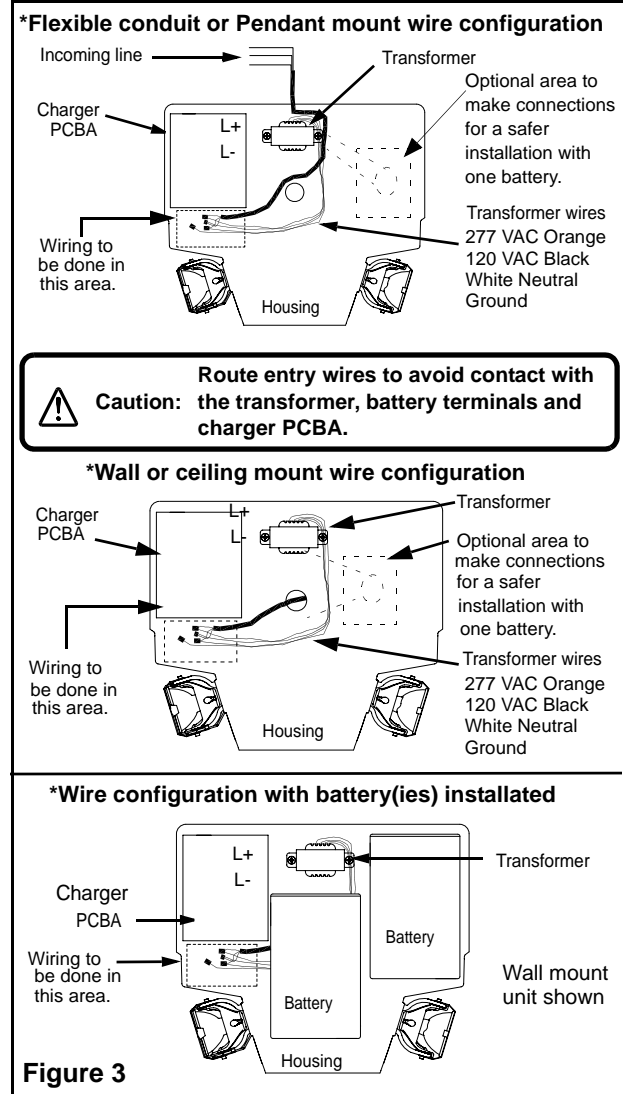

Figure 3
7. Make the proper connections: our system can accept input voltages of 120 VAC or 277 VAC. Therefore, connect the black (120 VAC) or orange (277 VAC) and white (common) leads to the building utility. Connect the green wire to the ground. Refer to figure 3.
8. Secure the housing to the wall at wall anchoring points using wall mount screws (14), then to the junction box using the junction box screws (10).
10. Reinstall the battery(ies) by connecting the wires first before securing each battery in the housing. Secure the Velcro strap(s) and battery bracket with locking screw (15) when supplied. Connect the battery to the charger board.